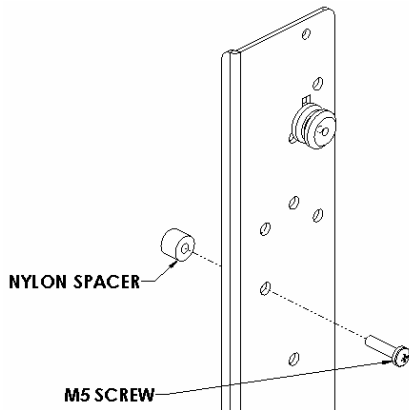
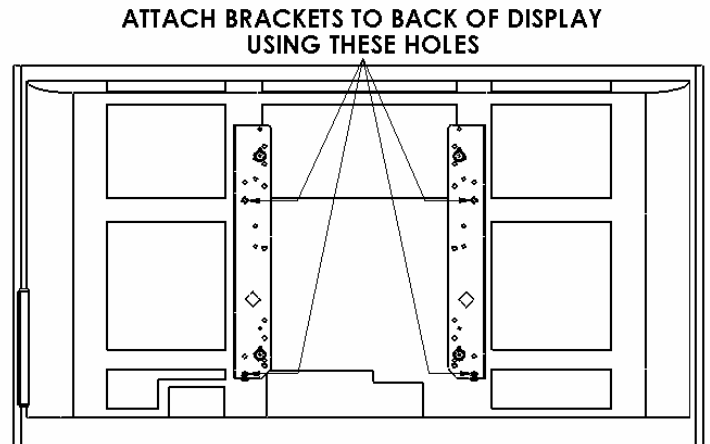

Figure 4
Figure 5
3. Place Nylon spacers over the mounting holes and align the hole pattern on the brackets with the pattern on the back of your display (see Figure 4 & Figure 5).